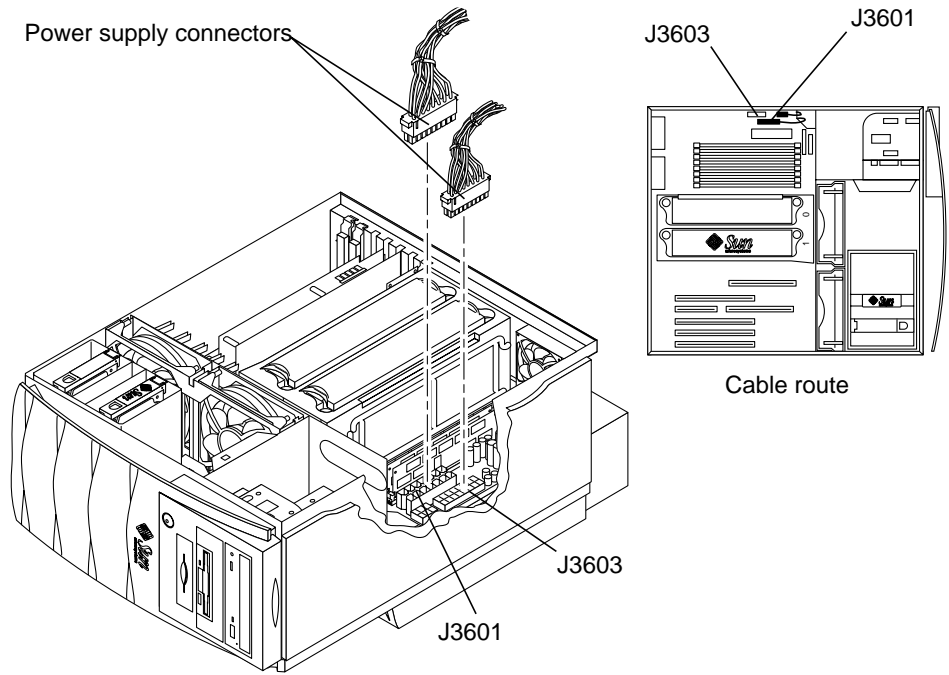

FIGURE 6-2 Removing and Replacing the Power Supply Assembly
2. Squeeze the connectors to disengage them from the motherboard. Now, disconnect the two power supply assembly connectors, J3601 and J3603, from the motherboard (FIGURE 6-2).
5. Connect the power supply assembly connectors to the motherboard connectors J3601 and J3603 (FIGURE 6-2).